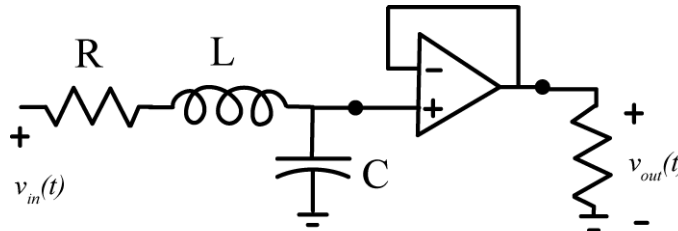

Figure 15. Our second order system
- 2) Modify your circuit so the plant and isolation amplifier is as shown in Figure 15. Again the resistor is  $1\text{ k}\Omega$ , but the capacitor is a  $0.01\ \mu\text{f}$  capacitor, and the inductor is a  $33\text{ mH}$  inductor (we've used the inductor and capacitor before in Lab 2).